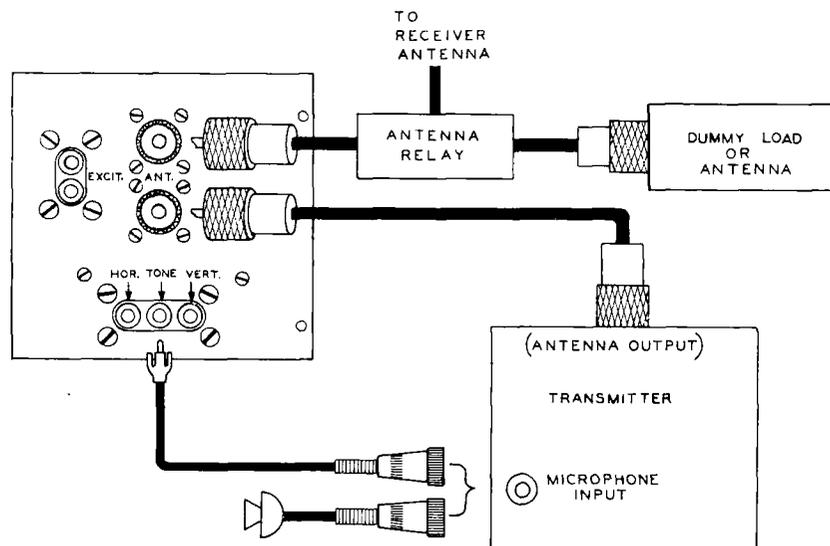

Figure 2
#### TRANSMIT ENVELOPE PATTERNS (FIGURE 2)
2. Connect the scope to the transceiver as shown in Figure 2 on Page 43.